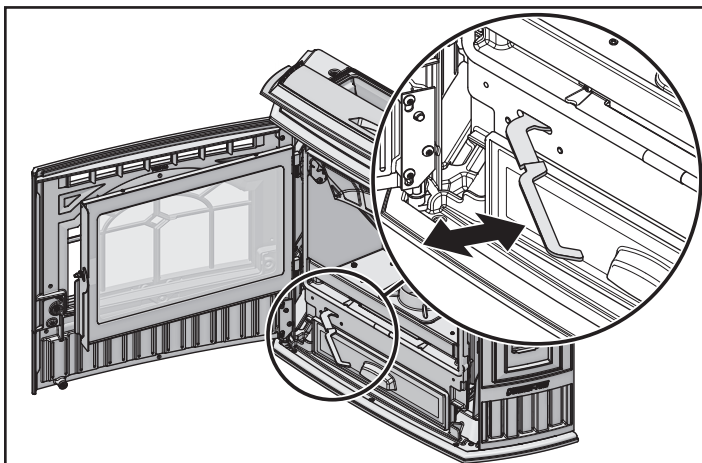

Figure 17.2
- Pull fire pot floor cleaning lever two times until the ash falls into the ash pan below. **Figure 17.2**
- It is necessary to remove the baffle to gain access to the heat exchanger (figure 17.2). Follow instructions for baffle removal on **page 21, figure 21.2**.
- Use the crevice tool to finish cleaning the heat exchanger fins. It is critical that the 2 exhaust exits at the back of the firebox floor (left and right) be thoroughly cleaned. **Figure 17.2** There are several ways this can be done: